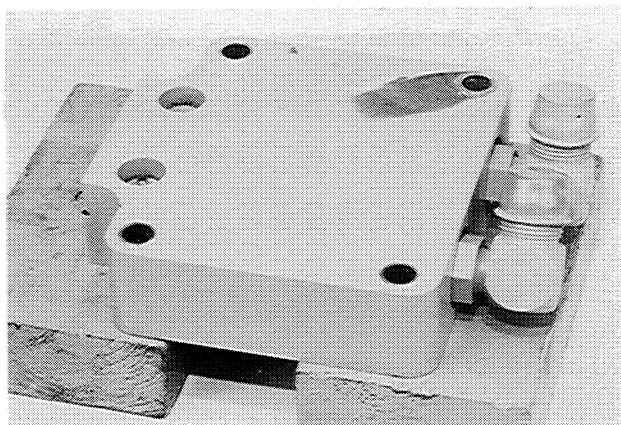

Figure 127
51. See Figure 127. Put the end cap on blocks so that the needle bearing and the pin in the inner face of the end cap are not in contact with the work bench.